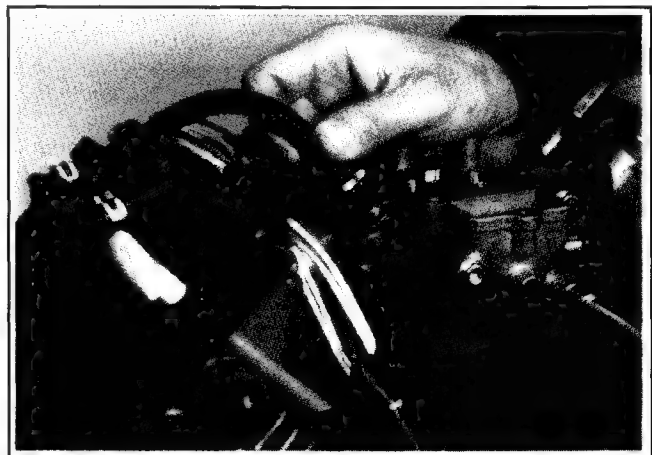

Figure 11-53. Connecting Fuel Line To Carburetor.
12. Connect the fuel line to carburetor and secure with a hose clamp. See Figure 11-53.